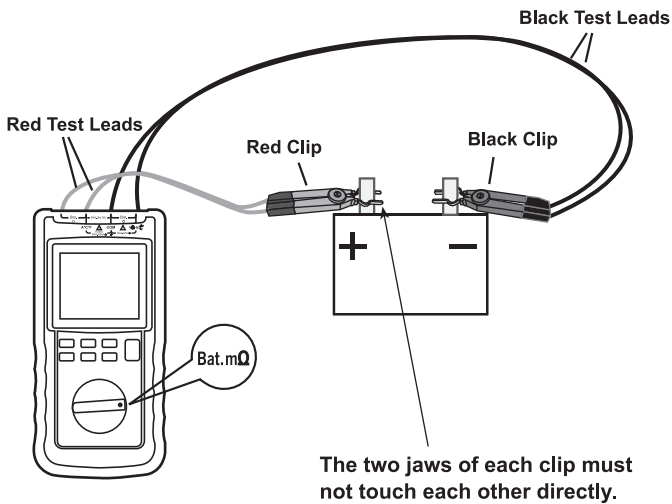

Figure 8
2. See Figure 8, insert the plugs of the two red test leads to the two "^{Bat.} ⊕ " jacks respectively, the plugs of the two black test leads to the two "^{Bat.} ⊖ " jacks respectively.
Clip the red clip to the battery's positive terminal, clip the black clip to the battery's negative terminal (Figure 8).
Note: For accurate measurement, the two jaws of each clip must not touch each other directly (Figure 8).